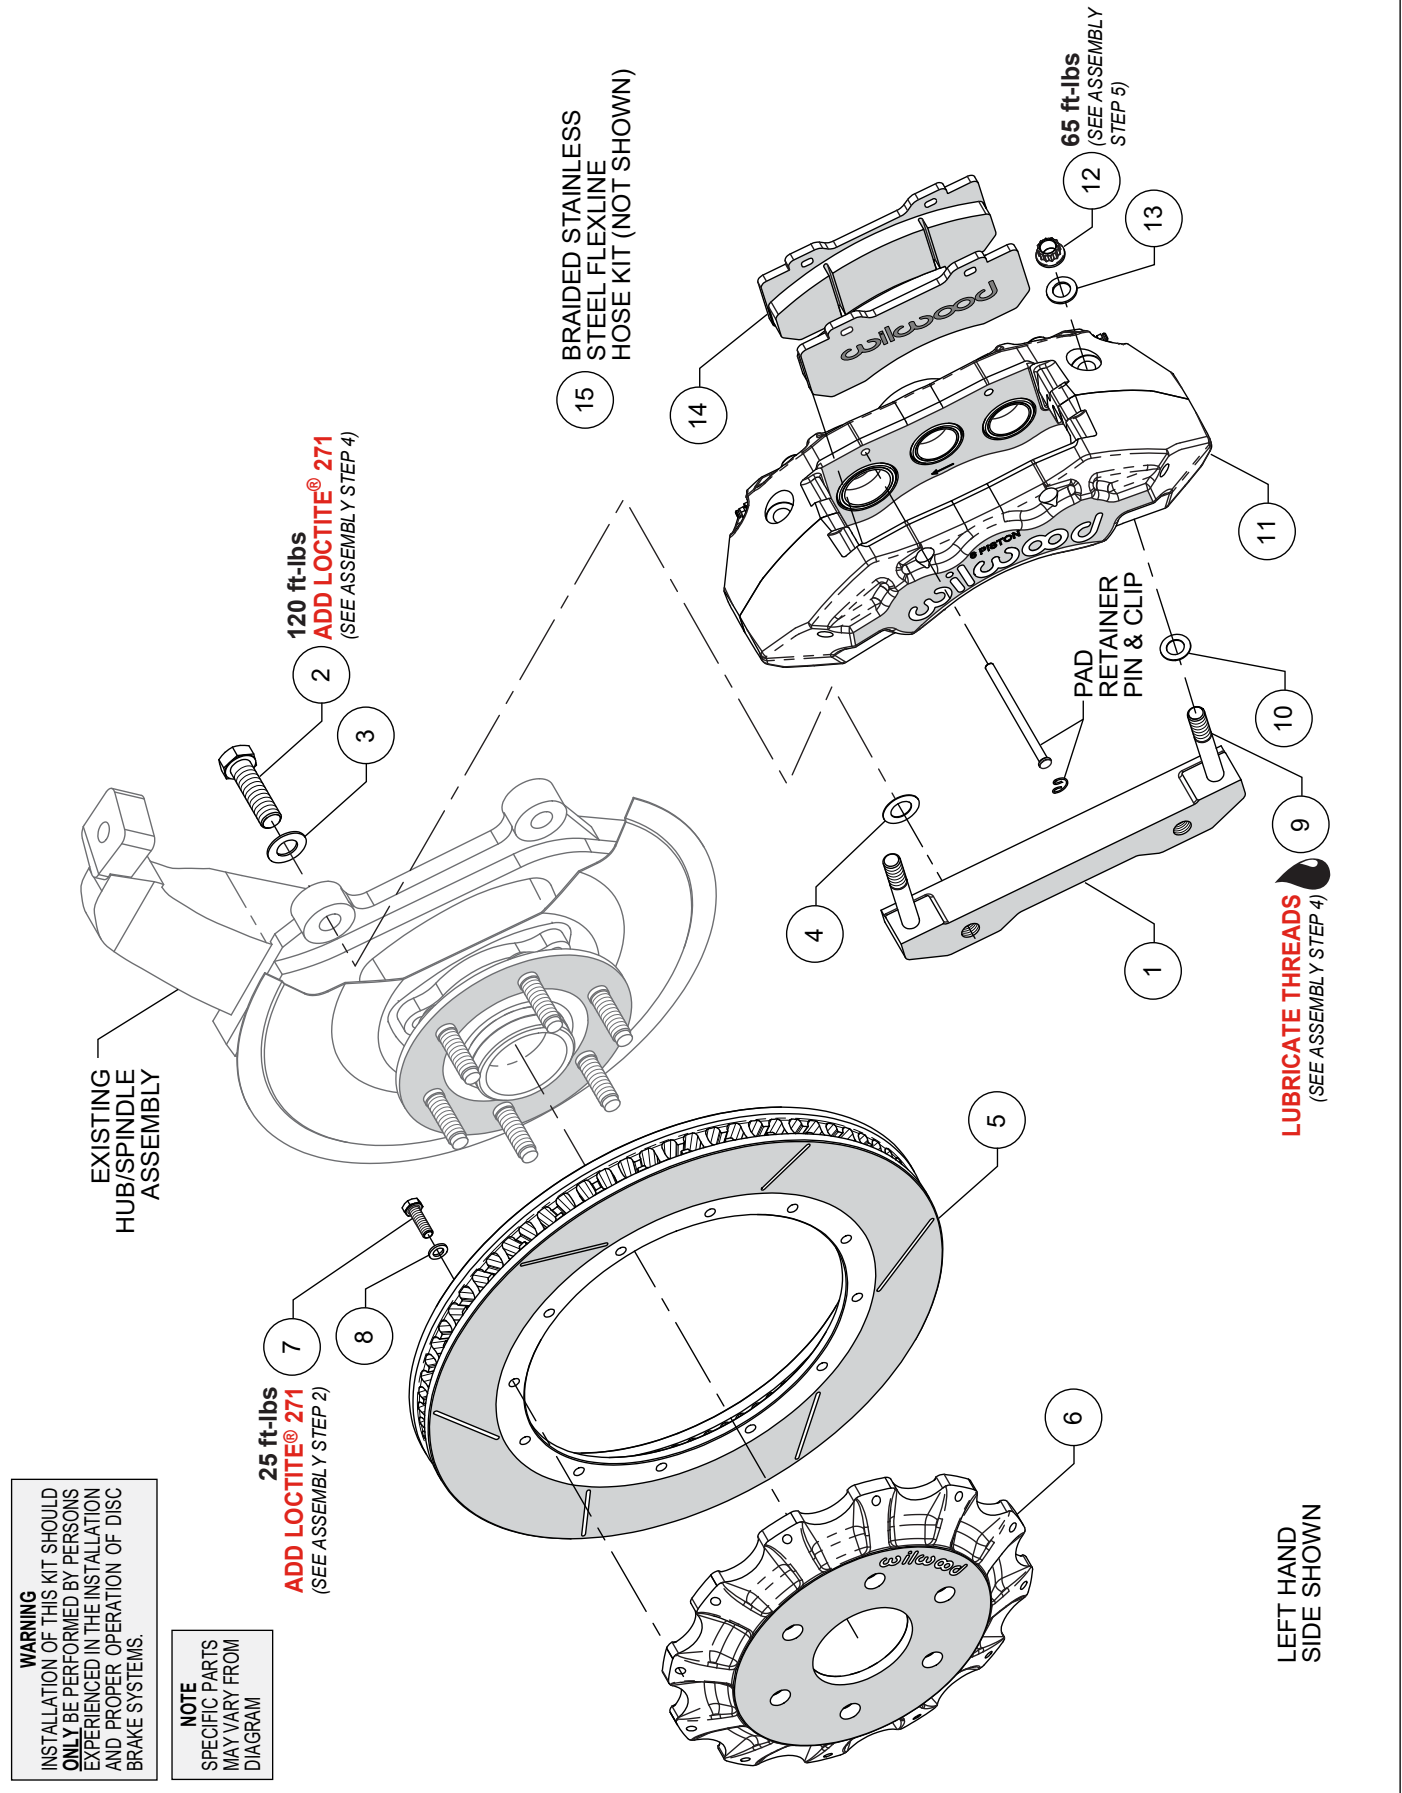
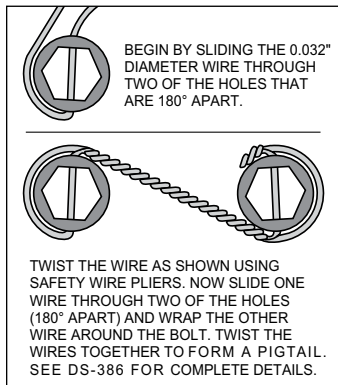

Figure 1. Typical Installation Configuration
Figure 3.
NOTE: Numbers in parenthesis refer to the parts list and Figure 1 on the preceding pages.
STEP 1 The caliper mount bracket (1) should initially be installed with clean, dry threads on the mounting bolts. Orient the bracket as shown in Figure 1 and Photo 1, and install using bolts (2) and washers (3). Initially place one .024" thick shim (4) on each bolt between the bracket and upright, Figure 1 and Photo 2 (arrow). Temporarily tighten the mounting bolts. **NOTE:** The bracket must fit squarely against the mount bosses on the upright. Inspect for interference from casting irregularities, machining ridges, burrs, etc. Later, after the caliper alignment has been checked, the mount bolts will be secured using red *Loctite*® 271.
STEP 2 Orient the rotor (5) and the hat (6) as shown in Figure 1 and Photo 3. Attach rotor to hat using bolts (7) and washers (8). Apply red *Loctite*® 271 to the bolt threads and torque to value shown in Figure 1 using a criss-cross pattern. For an added measure of security, the bolts may be safety wired using standard .032" diameter stainless steel safety wire as shown in Figure 3. Please refer to Wilwood's data sheet DS-386 (available at www.wilwood.com/Pdf/DataSheets/ds386.pdf) for complete safety wire installation instructions.
STEP 4 NOTE: This kit contains distinct right and left hand calipers that must be mounted in a specific direction, as described below. Lubricate the caliper mounting studs (9) with lightweight oil. Initially place one .032" thick shim (10) on each stud as shown in Figure 1 and Photo 5. Mount the caliper (11) onto the bracket (1) using lock nuts (12) and washers (13), Figure 1. Ensure that the caliper is mounted so that the largest pistons are at the rotor exit end of the caliper, in relation to the direction of rotor rotation. Temporarily tighten the lock nuts and view the rotor through the top opening of the caliper. The rotor should be centered in the caliper, Photo 6. If not, adjust by adding or subtracting shims (4) between the bracket and the upright. Always use the same amount of shims on each of the two mounting bolts. Once the caliper alignment is correct, remove the bracket mounting bolts (2) one at a time, apply red *Loctite*® 271 to the threads, and torque to value shown in Figure 1.
STEP 5 Remove the two pad retaining pins from the caliper by carefully popping out the pin retaining clips and sliding out the pins. Insert the brake pads (14) into the caliper, with the friction material facing the rotor, as shown in Photo 7 and secure the brake pads in place with the pad retaining pins and clips, Photo 8. Check that the top of the brake pad is flush with the outside diameter of the rotor, Photo 8. If not, adjust by adding or subtracting shims (10) between the caliper and the bracket. After the caliper pad height is set, torque the caliper lock nuts to value shown in Figure 1.
STEP 7 Install Wilwood's stainless steel braided flexline hose kit (15), P/N 220-16802 (all except TRX model) or 220-17390 (TRX model) included with this kit, as shown in Photos 9 and 10. The caliper inlet fitting is a 1/8-27 NPT (use PTFE tape on pipe threads for proper sealing to caliper). **Carefully route hoses to prevent contact with moving suspension, brake or wheel components.**